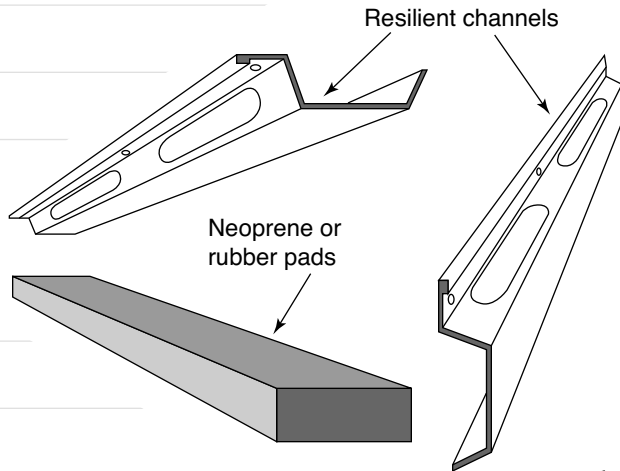

FIGURE 1
- ◆ Eliminate solid contact between the layers. Where connections are needed, they must be resilient. An air space, resilient metal furring, rubber, steel springs, or cushioning blankets are used to reduce vibration transmission between one side or layer of a wall or floor and the next (see Figure 1).